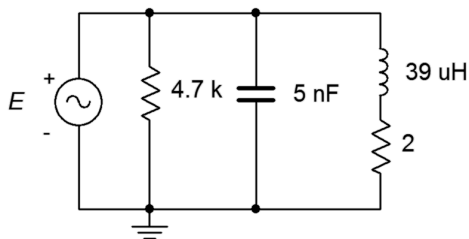

Figure 8.7
21. For the circuit shown in Figure 8.7, determine the resonant frequency, system Q and bandwidth. If the source is 15 volts, determine the resistor, inductor and capacitor currents at resonance.